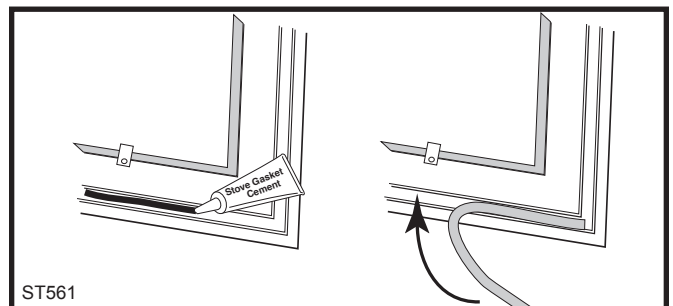

Fig. 38 Lay a bead of gasket cement then press gasket in place.
4. Starting at one end, pack a new gasket into the groove. Where the two ends of the gasket meet, ensure a good joint before trimming any excess. Do not overlap or leave ragged edges. (Fig. 38)